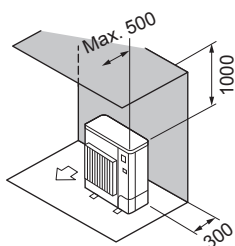

Fig. 1-6
- ② Obstacles at rear and above only (Fig. 1-6)